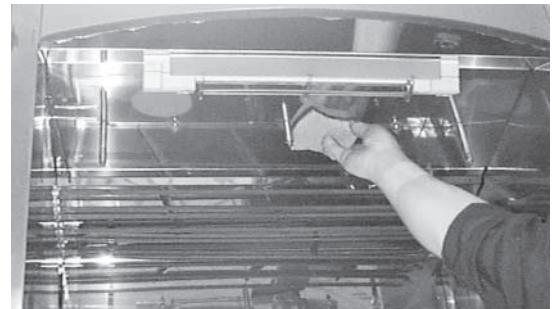

Fig. 66
7. Clean ceiling of oven interior around elements and convection fan shafts (Fig. 66).